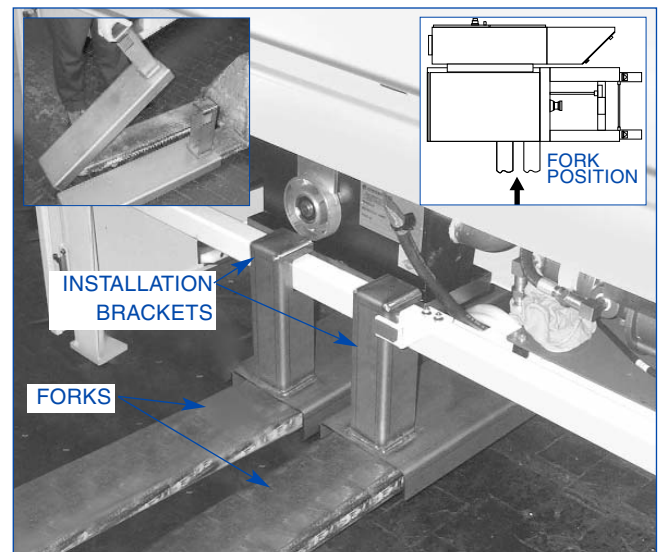

FIGURE 1-3, Position Forks
6. Position Installation Brackets on forks as shown (see Figure 1-3).